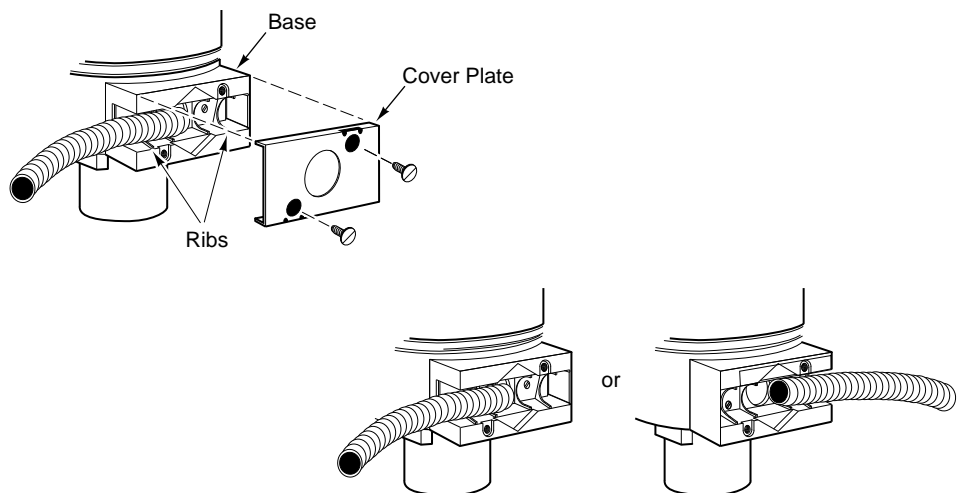
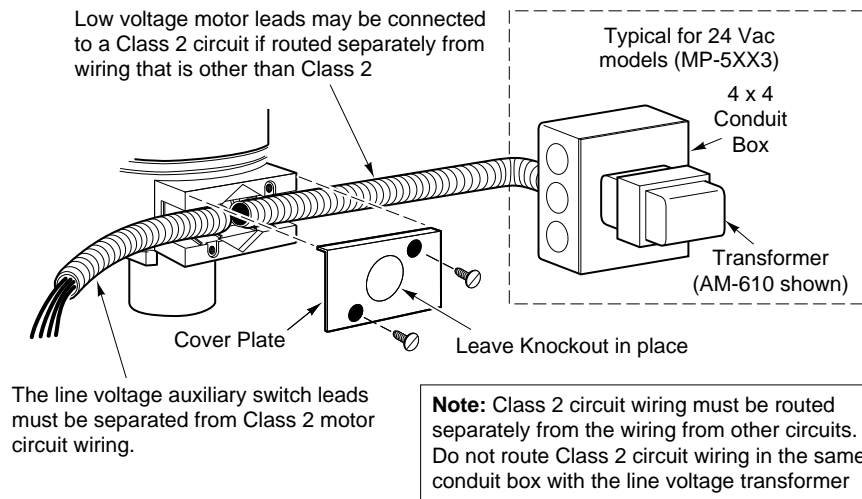

Figure-6 Flexible Conduit Installation to Either Side of Actuator.
Figure-7 MA-5200 and MA-5300 Series Wiring with Separation for Class 2 and Line Voltage Circuits.
The low voltage (24 Vac) power leads may be connected to a Class 2 circuit if routed separately from Class 1 circuit wiring. The line voltage (120 and 240 Vac) leads must be connected to a Class 1 circuit. Refer to Figure-7.
The line voltage (120 Vac and 240 Vac) auxiliary switch leads must be connected to a Class 1 circuit and routed separately from any Class 2 circuit wiring. Refer to Figure-7.
Flexible conduit may be installed onto one or both sides of the actuator (refer to Figure-6 and Figure-7). Install each conduit as follows:
4. Slip the conduit onto the base, over the ribs. Refer to Figure-6 and Figure-7.